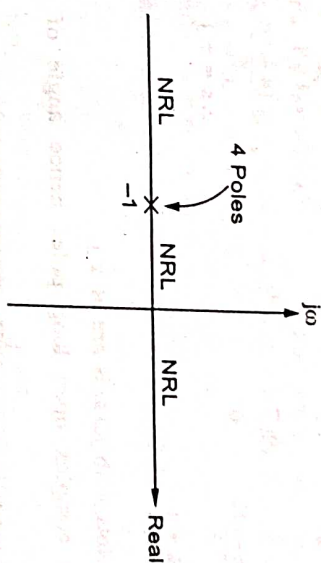

Fig. Q.24.1 (a)
Step 2 : Sections of real axis as shown in the Fig. Q.24.1(a).